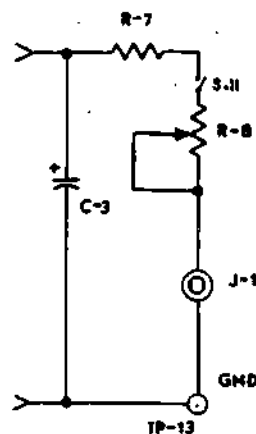

Figure 36-3. Power Supply Load
(1) Check trainer output voltage and current (5V and 2mA). If necessary, use procedure 3a to adjust the output.
(2) Insert OPEN R-8 with S-11 and locate on figure 36-3, Power Supply Load.